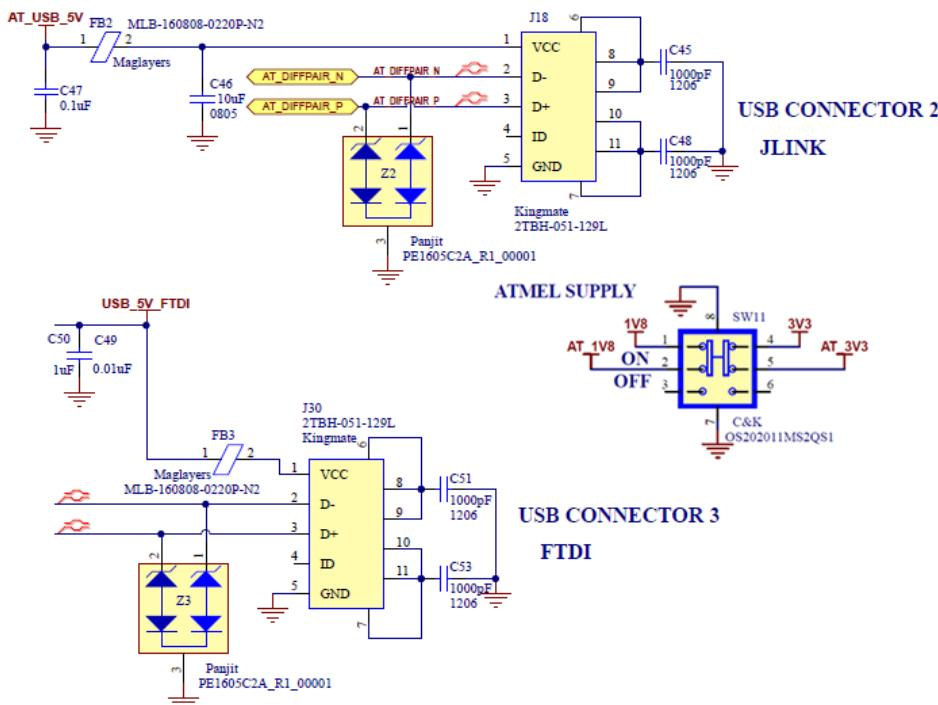

Figure 13: JLINK USB, FTDI USB, and ATMEL SUPPLY switch
- The internal SWD circuitry can also be connected to the modem. The DEBUG SELECT must be set to INTERNAL. The ATMEL SUPPLY switch, SW13, must be set to ON. USB cables must be plugged into J18 (JLINK) and J30 (FTDI), shown in Figure 13.